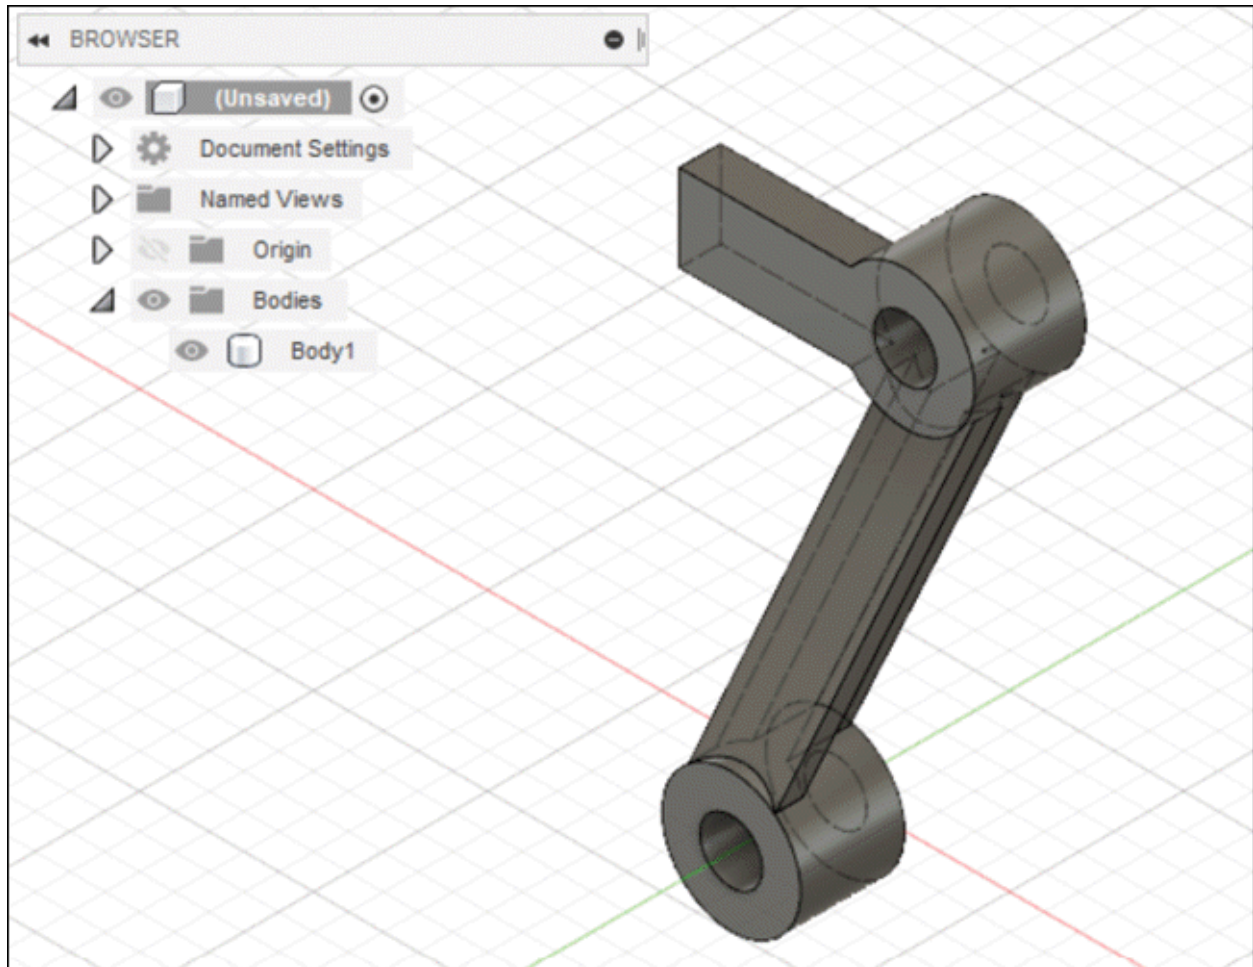

Figure-15. Model imported from Creo Parametric file
- Once the status of import is complete then click on the **Open** button from the **Action** column in the dialog box. The model will be displayed; refer to Figure-15 (Creo Parametric file imported in Fusion 360).